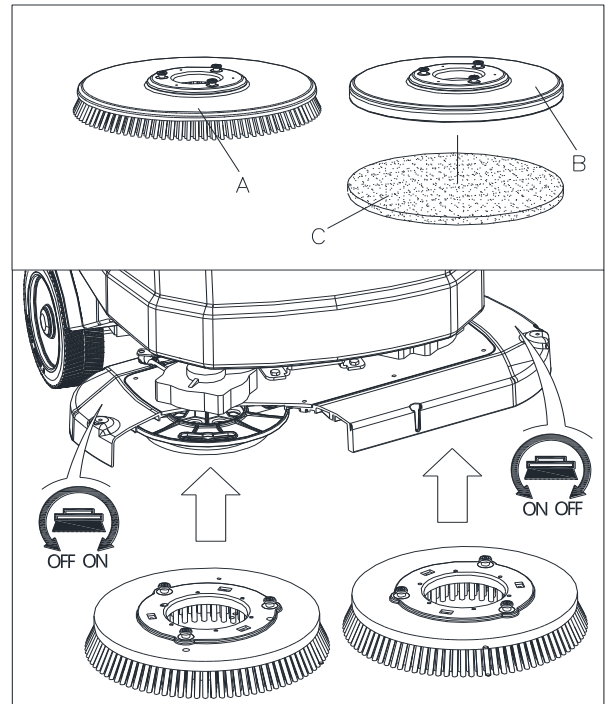

Figure 9
Install either the brush (A, Figure 9) or pad-holder (B and C, Figure 9) according to the type of floor to be cleaned.
2. Turn the speed adjuster (48) to idle by turning it counter-clockwise.
3. Place the brushes (A, Figure 9) or the pad-holder (B) under the deck.
4. Use the manual method by turning the brush/pad-holder in the direction opposite to the normal turning direction, and it can be installed. (as shown in Figure 9)